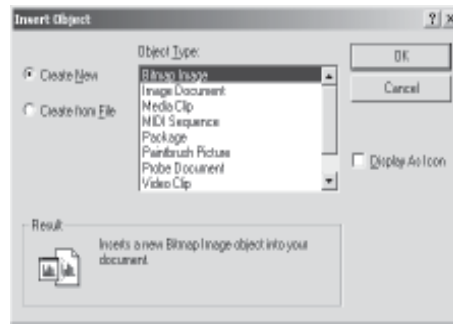

Fig. 4-33 Insert OLE Objects
1. Select and click  and then move the mouse to the drawing interface, and the dialogue frame as in Fig. 4-33 will be shown in the system.